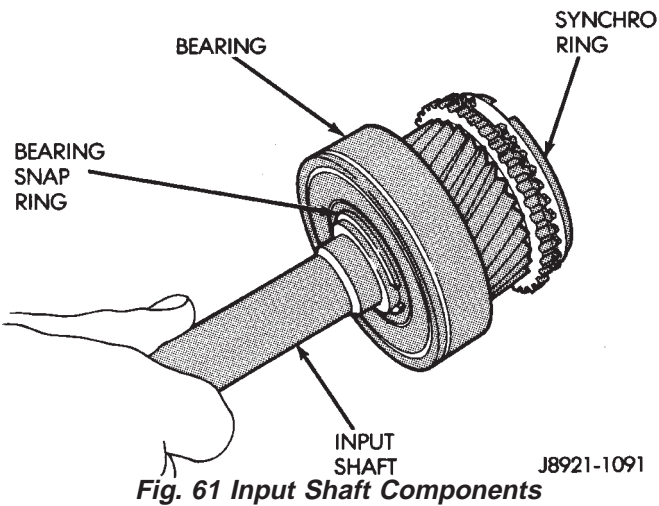

Fig. 61 Input Shaft Components
- (9) Remove synchro ring from input shaft (Fig. 61).
- (10) Remove bearing snap ring and press bearing off input shaft (Fig. 61).